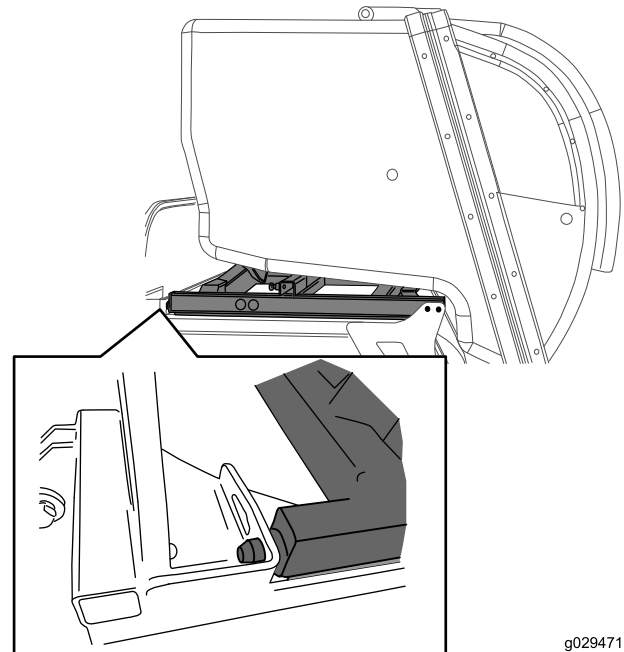

Figure 8
3. On the left side of the machine, loosen the clamp on the vent-line hose and slide the hose down the metal tube (Figure 8). Tighten the clamp.
4. Slide the high-lift-collection assembly forward so that the tabs on the front of the cooler are flush with the plate on the carrier frame (Figure 7) and the tabs in the steel frame of the high-lift-collection assembly sit inside the holes on the carrier frame as shown in Figure 8.